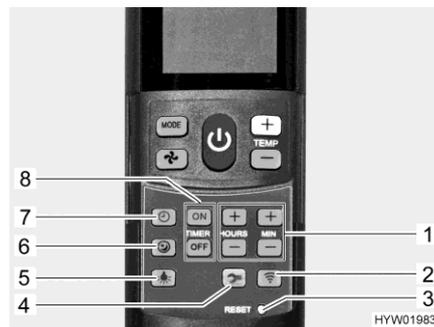

Fig. 136 Remote control with setting buttons (air conditioning unit)
- Press the soft-start button (Fig. 136,6). The fan then runs at low speed in cooling mode, which makes it especially quiet.
- Press the time button (Fig. 136,7).
- Set the hours and minutes with the buttons (Fig. 136,1).
- Press "ON" button (Fig. 136,8).
- Press the buttons for setting the time (Fig. 136,1) until the desired time span until switch-on is reached.
- Press "OFF" button (Fig. 136,8).
- Press the buttons for setting the time (Fig. 136,1) until the desired time span until switch-off is reached.
- Press the "ON" or "OFF" button (Fig. 136,8) again.
- Press the light button (Fig. 136,5). The light is switched on at the last set dimming level.
- Press the light button (Fig. 136,5) and keep it pressed until the desired brightness is reached.
- Press the light button (Fig. 136,5).
- ▷ The Setup button (Fig. 136,4) is used to connect the remote control with the air conditioning unit during first set-up.